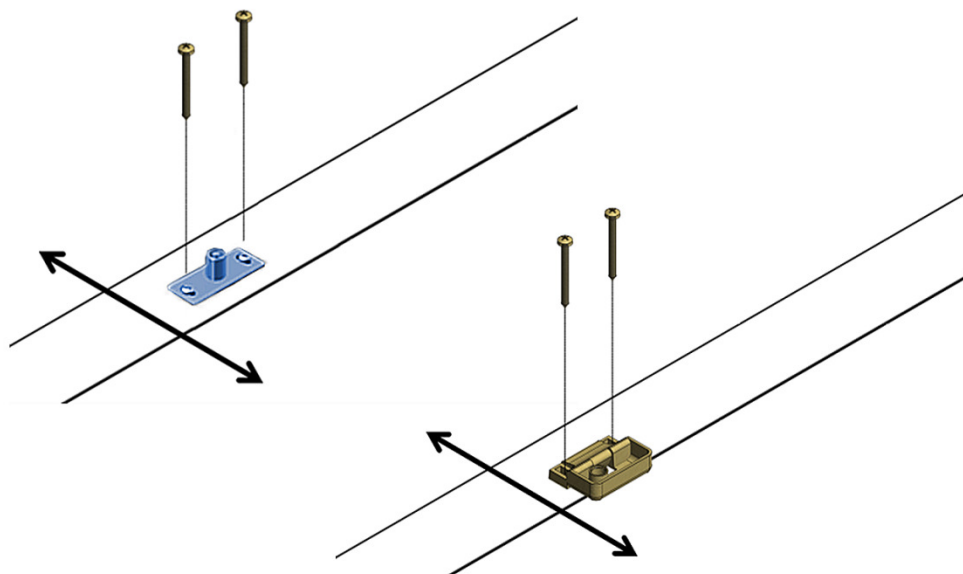

Figure 4-1
1. First locate the pipe plate and check if the position is correct; if not, loose the screws to make the adjustment as shown in Figure 4-1
3. Release the striker screws and adjust the position of the striker along the direction shown in Figure 4-1 until the door closes without any backlash (door re-opens). Do the same for all the strikers present on the section.